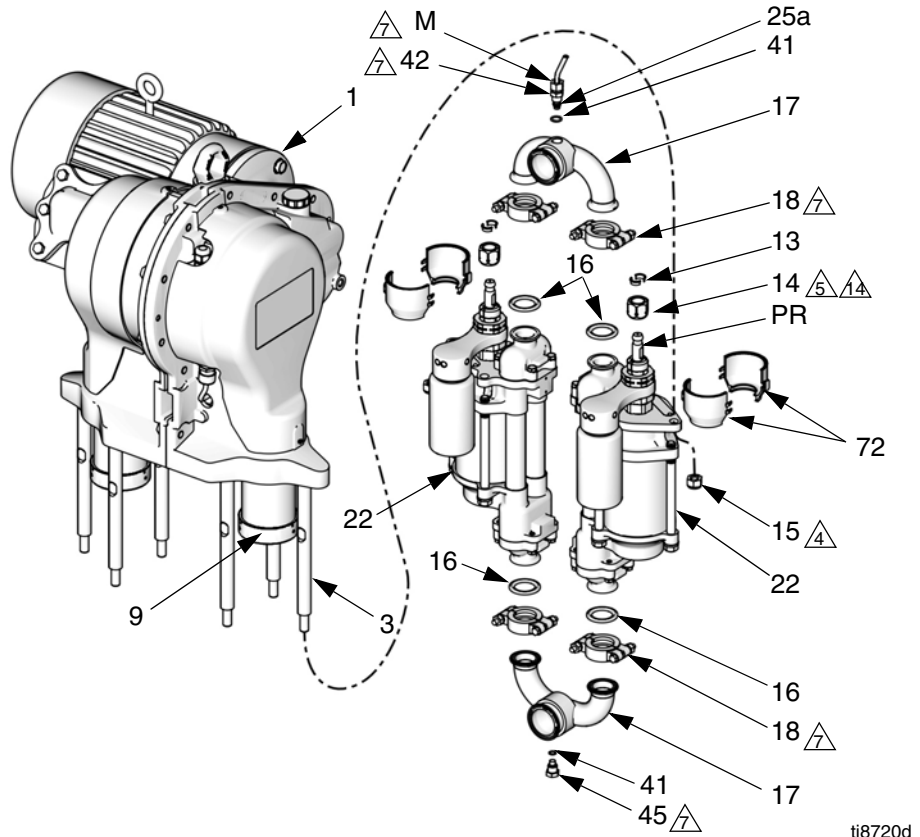

FIG. 5: Fluid Section
2. Jog the motor to bring the lower on the side being repaired to the bottom of its stroke. This provides access to the coupling nut (14).
4. Remove the 2-piece shield (72, see FIG. 5) by inserting a screwdriver straight into the slot, and using it as a lever to release the tab. Repeat for all tabs. **Do not** use the screwdriver to pry the shields apart.
10. See FIG. 5. *On pumps with a sensor circuit:* At the pump outlet manifold (17), loosen the nut (M) on the sensor conduit (44) and unscrew the adapter (42) from the manifold. Remove the transducer (25a) from the manifold port. Remove the existing o-ring (41) and discard.
11. Loosen the clamps (18) at the inlet and outlet manifolds (17). Remove the manifolds and gaskets (16).
12. Remove the coupling nut (14) and collars (13) from the piston rods (PR).
13. Unscrew the locknuts (15). Remove the lower (22). See your separate lower manual for repair instructions.
1. See FIG. 5. Install the coupling nut (14) on the lower's piston rod (PR).
2. Orient the lower (22) to the gear reducer (GR) as shown. Position the lower on the tie rods (3). Screw the tie rod locknuts (15) onto the tie rods handtight.
3. Assemble the inlet and outlet manifolds (17) to the lower, using new gaskets (16). Torque the clamps (18) to 15-20 ft-lb (21-27 N•m).
4. Torque the locknuts (15) to 50-60 ft-lb (68-80 N•m).
5. At the outlet manifold (17):
- a. *On pumps with a sensor circuit:* Install a new black o-ring (41) on the transducer (25a). Insert the transducer into the outlet manifold (17). Torque the adapter (42) first, then the nut (M) to 15-20 ft-lb (21-27 N•m).
- b. *On pumps without a sensor circuit:* Install a black o-ring (41) on the plug (45). Screw the plug into the outlet manifold (17) and torque to 15-20 ft-lb (21-27 N•m).
6. Install a black o-ring (41) on the plug (45). Screw the plug into the inlet manifold (17) and torque to 15-20 ft-lb (21-27 N•m).
7. Ensure that the collars (13) are in place in the coupling nut (14).
8. Place a 3/4 in. wrench on the flats of the slider piston (9), to keep it from turning when you are tightening the coupling nut (14). Orient the wrench so it is braced against one of the tie rods (3) or the pump stand. Tighten the coupling nut (14) onto the slider piston (9) and torque to 75-80 ft-lb (102-108 N•m).
9. Install the shields (72) by engaging the bottom lips with the groove in the wet-cup cap. Snap the two shields together.